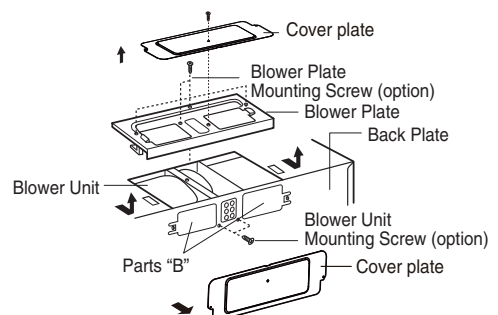

Figure 13
1. Remove one cover plate mounting screw and cover plate. Remove one or several blower plate mounting screw(s) and the blower plate. Remove the cover plate and one or two blower unit mounting screw(s). See Figure 13